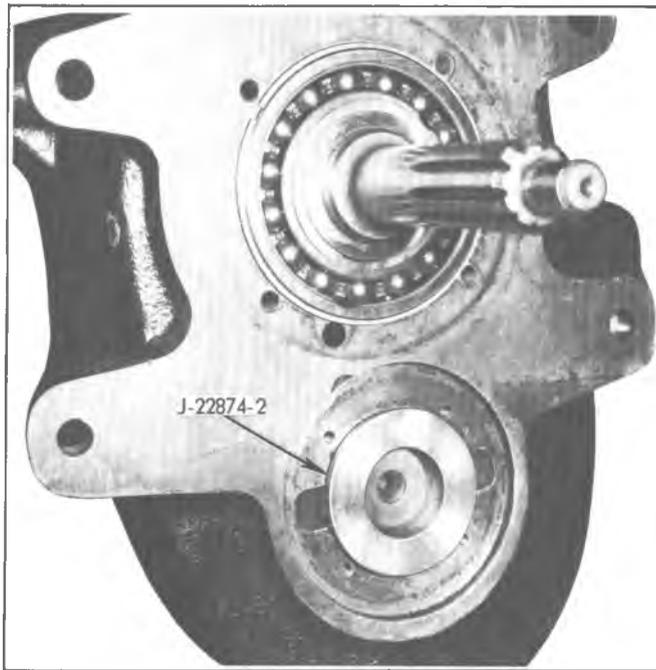

Fig. 7B-24L--Counter gear Front Support Tool
3. Install mainshaft assembly into case with rear of shaft protruding out rear bearing hole in case. Position Tool J-22874 in clutch gear case opening and engaging front mainshaft (Fig. 7B-23L). Rotate case onto front end.